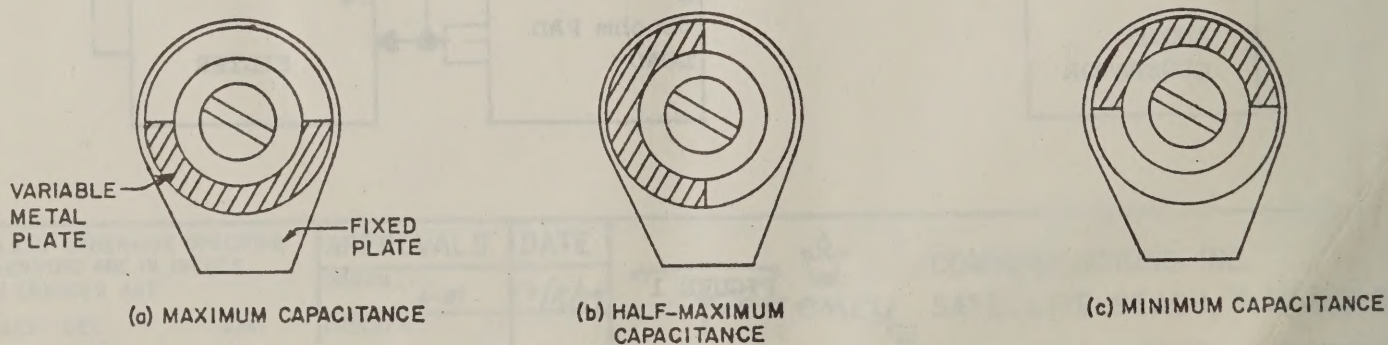

FIGURE 2
- Preset C348 for maximum capacitance (see Fig. 2)